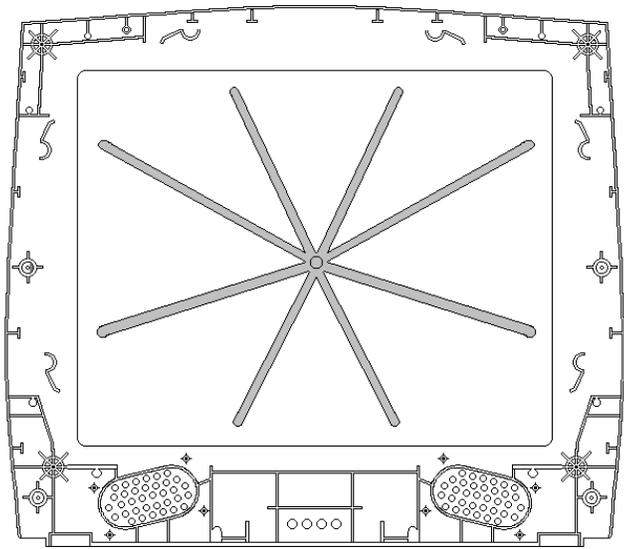

Fig. 322-3A
In this case study we will examine the process by which we converted an existing tool to gas assist to improve the quality, as well as, optimize cycle time. The mold was a 25 inch television cabinet front cover, with a 3 millimeter wall thickness. A center cold sprue and 8 runners supplied material to 8 sub-gates. A mechanical slide was used to form the vented pan at the bottom of the cabinet. This is typical of most conventional TV cabinet designs. (See Fig. 322-3A)
**FIGURE 322-3A** As is typical of many TV cabinet designs, this 25-inch cabinet front cover had a center cold sprue and eight runners supplying material to eight subgates.